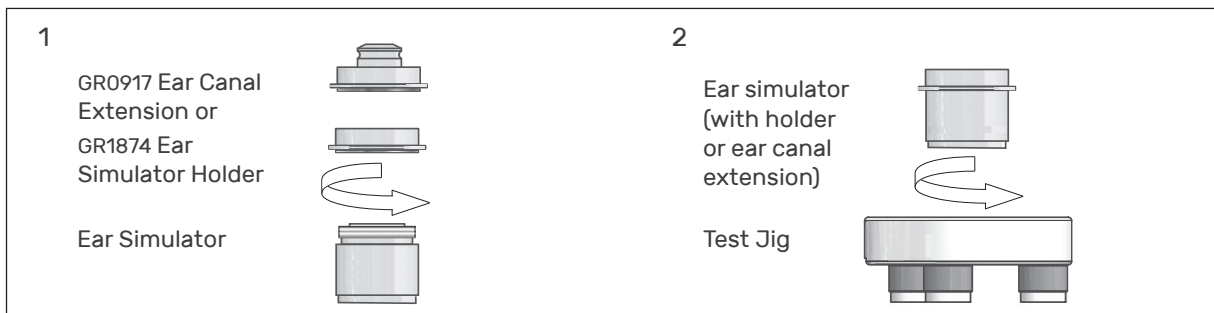

Fig. 3. Mounting the ear simulator in the test jig.
See Fig. 3 on page 15.
2. Unscrew the Ear Simulator Holder from the Ear Simulator (reverse of Fig. 3, 1).